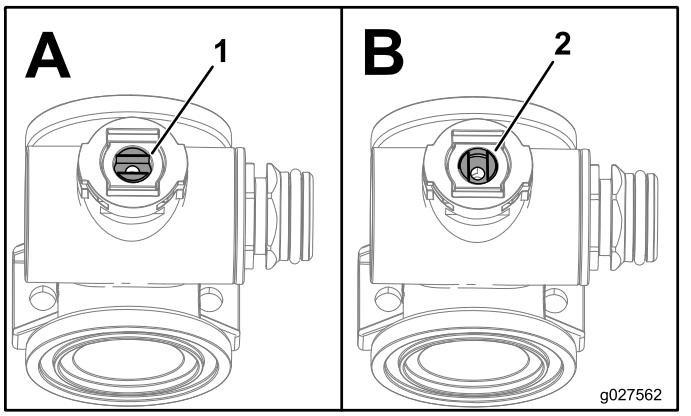

Figure 105
1. Position the valve stem so that it is in the closed position (B of Figure 105).
3. Turn the valve stem so that the ball is in the open position (A of Figure 105).
7. Turn the valve-stem assembly so that the valve is closed (B of Figure 105).